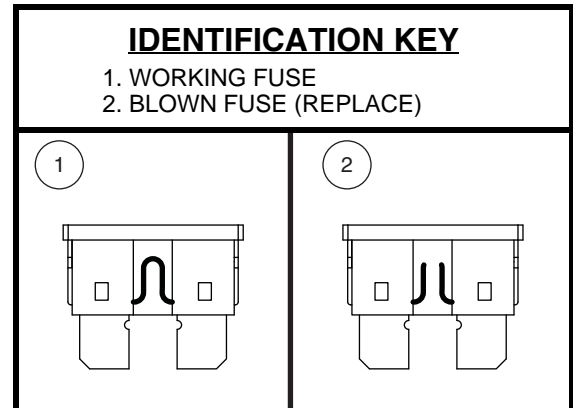

Figure 28. Fuse Replacement
2. Examine the fuse to be sure it is blown. **See figure 28.**